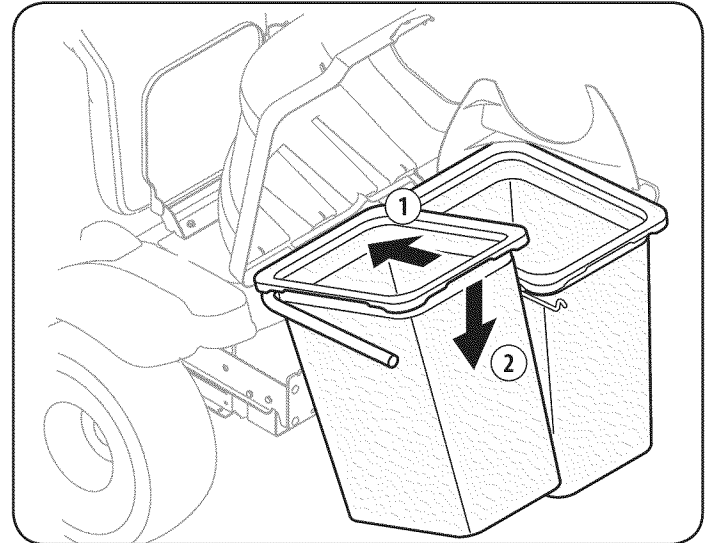

Figure 20
8. Install both grass bins onto the bin support assembly by inserting the front edge in first (1), as seen in Fig. 20, and setting the back edge down (2) until it fits into the assembly.